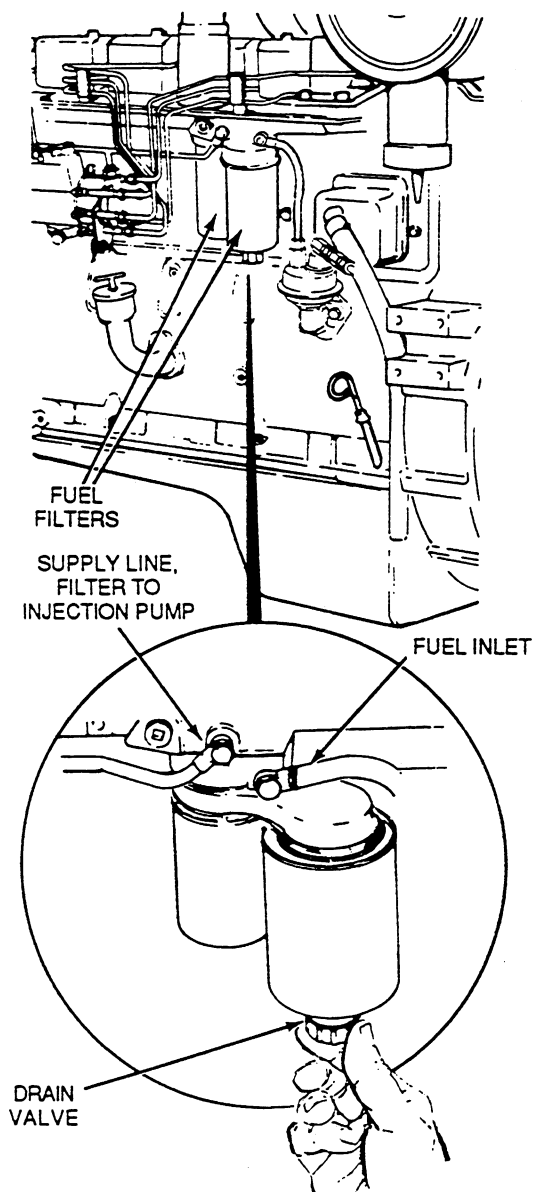

FIGURE 17. FUEL FILTERS
5. Disconnect wire from fuel solenoid valve (Figure 17), close throttle and crank engine while maintaining an external prime pressure of 15 psi (103 kPa), for 15 seconds.
1. Remove each fuel filter (Figure 17) and fill with clean fuel.